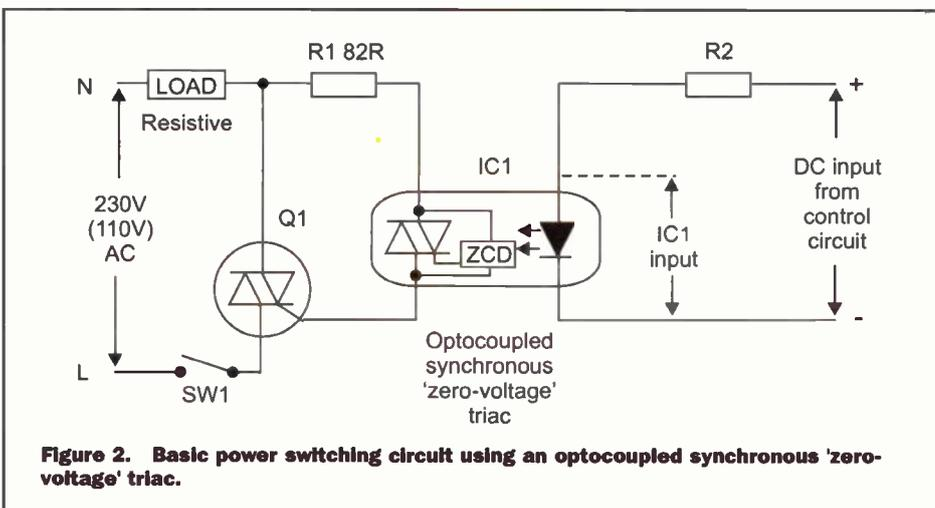

Figure 2. Basic power switching circuit using an optocoupled synchronous 'zero-voltage' triac.
- 5 Honeywell Optoelectronics Application Sheet, "Modulating VCSELS", Figure 2
Optocoupled synchronous zero-voltage triacs are easy to use and provide excellent electrical isolation between input and output. The input is used like a normal LED, and the output like a low-powered triac. In most practical applications, the optocoupled triac is used to activate the gate of a 'slave' triac, thereby driving a resistive AC load of any desired power rating. Figure 2 shows a practical circuit of this type, which can be manually or automatically switched on or off via a DC input current.
Note in Figure 2 that R1 is used to limit the peak switch-on current of the optocoupled triac (and thus the peak gate current of Q1) at IC1's absolute maximum  $V_{IH}$  value minus 2V, i.e., typically at 23V; with the R1 value shown, the peak switch-on current is limited to 280mA. R2 is used to limit the LED input current of IC1 to a sensible working value.
The optocoupled synchronous circuits shown in Figures 2 to 7 all - when powering a heater load - give a simple form of control in which the heater is either fully off or is operating at maximum power. Figures 9 and 10 show circuits that drive the heater in the synchronous burst-fire mode, thus enabling the heater's thermal output to be varied over a wide range. The Figure 9 circuit enables the heater's thermal output to be varied manually, via RV1. The Figure 10 circuit varies the heater's output automatically, to maintain a room's temperature at a precise pre-set value.